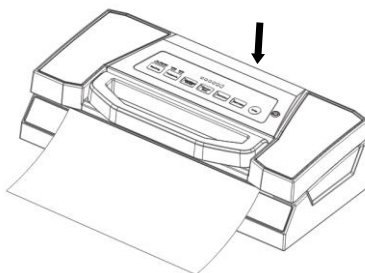

Fig.1
1. Press **Pulse Vacuum** button, the unit start to vacuum the bag , observe the status of the vacuum pressure inside the bag . loose the **Pulse Vacuum** button immediately when the desired vacuum pressure is achieved.-- **Fig 1**